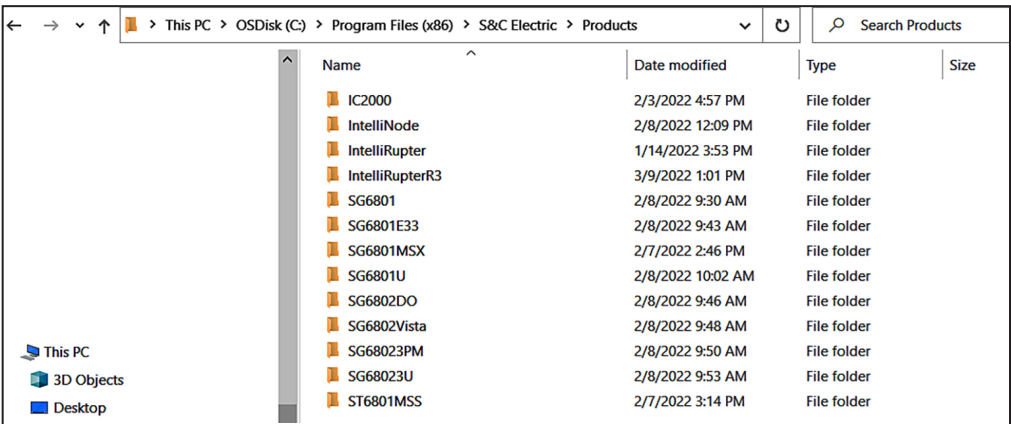

Figure 28. The selected program folder to be uploaded.
- STEP 5.** If any IntelliLink Setup Software is already installed, remove it by uninstalling it from the Windows program with the **Uninstall** option. See Figure 28.